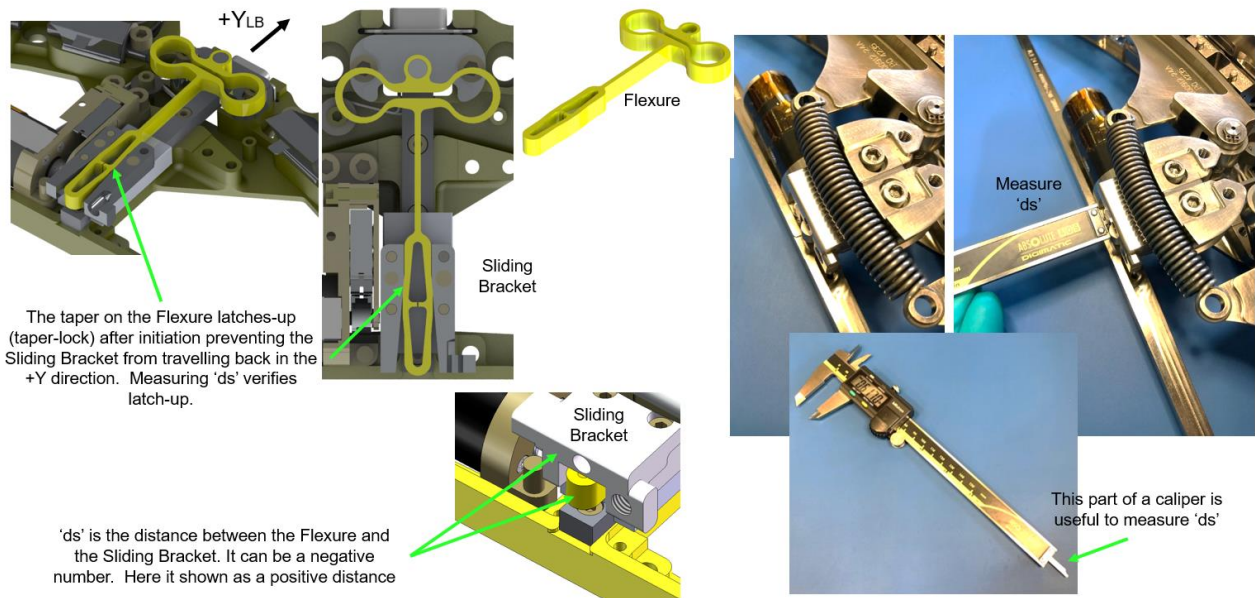

Figure 10-2: Measuring 'ds'
10.1.3	<p>Measure latch-up distance (ds) and record below. See Figure 10-2. Note on the ALB8, most calipers will have to be inserted at an angle as there is limited space between the Sliding Bracket and the -Y side of ALB.</p> <p>ds [in]: _____</p> <p>Note: a negative ds indicates the Flexure is inside the sliding bracket.</p>